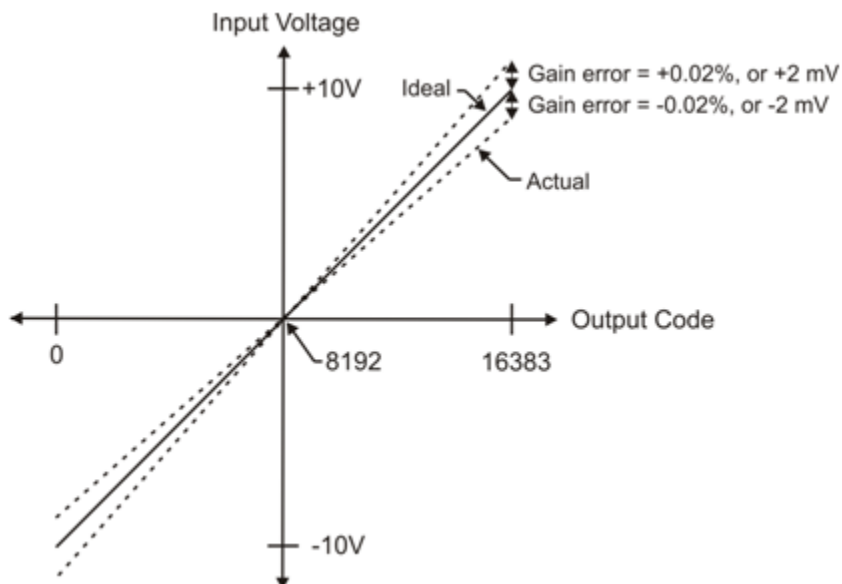

Figure 13. ADC Transfer function with gain error
Gain error is a change in the slope of the transfer function from the ideal, and is typically expressed as a percentage of full-scale. Figure 13 shows the transfer function with gain error. Gain error is easily converted to voltage by multiplying the full-scale (FS) input by the error.
The accuracy plots in Figure 13 are drawn for clarity and are not drawn to scale.